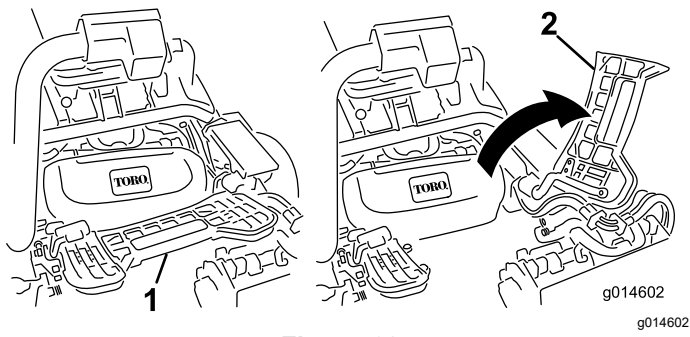

Figure 62
2. Lift up on the foot rest and swing it open, allowing access to the center cutting unit position (Figure 62).